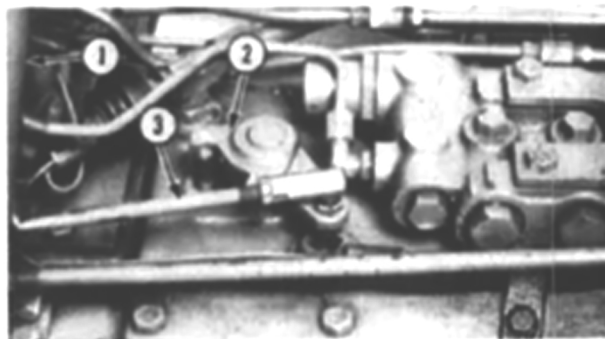

Fig. 101—Foot-N-Inch valve and linkage used on Model Hydro 84.
88. FOOT-N-INCH VALVE. The Foot-N-Inch valve is a pedal operated needle type valve located on left side of tractor. See Fig. 101. The pedal return spring holds the valve stem at the top of its bore so that maximum pressure can be held by the poppet. To adjust the valve, loosen jam nut (3) and unscrew valve stem (2) until pedal can be depressed fully to the foot plate without the valve restricting pedal movement. Hold pedal down and using a small punch in hole in stem, screw stem into linkage until stem contacts inside of valve and starts to lift pedal. Then, unscrew stem one full turn from linkage and tighten the jam nut.